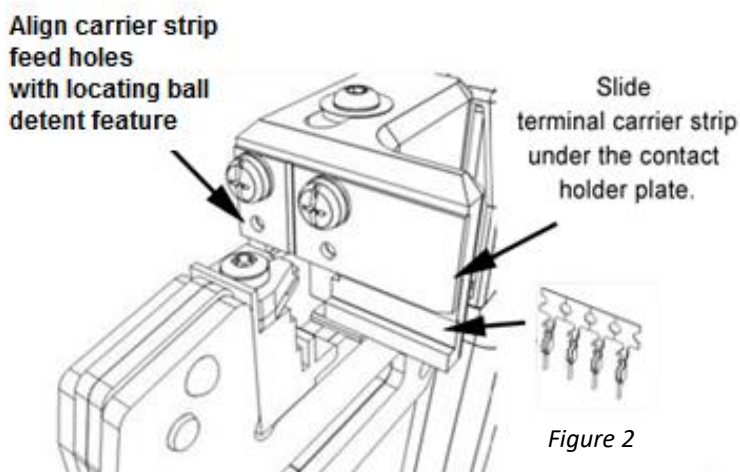

Figure 2
3. Slide the contact carrier strip under the contact holder plate and align the carrier strip feed holes with the locating ball detent features. The contact should now be properly positioned and ready to crimp (Figure 2).